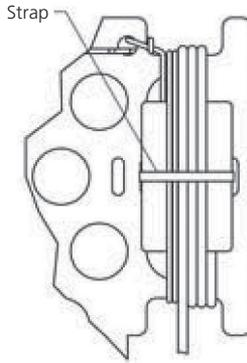

Figure 4-11. Strap the brick and cord in place using a zip tie or hook-and-loop tie (not included).
Step 5. Wrap the remaining length of power cord around the power brick (see Figure 4-11, page 13).